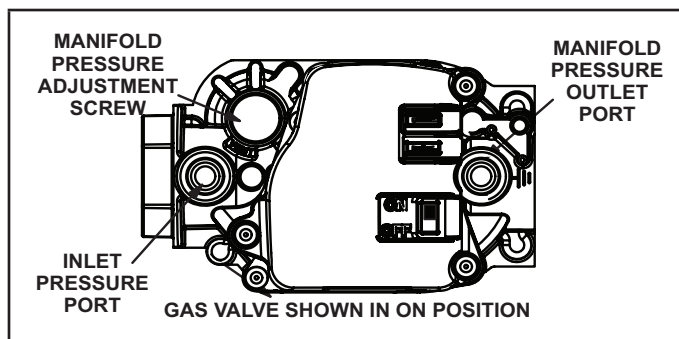

Figure 62
## Gas Valve Operation (Figure 62)
- 6 - Move gas valve switch to OFF. See Figure 62.
- 8 - Move gas valve switch to ON. See Figure 62.